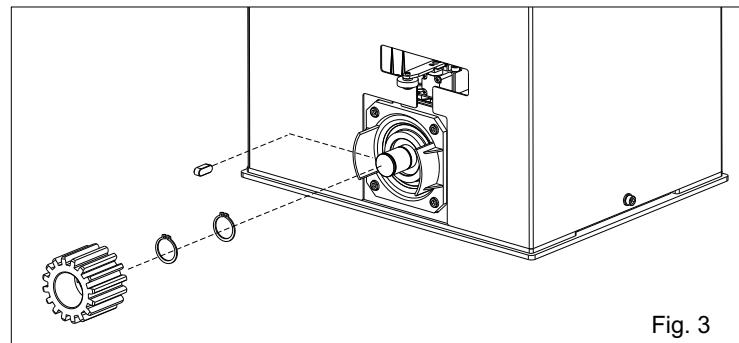

Fig. 3
- 3.1. Put the spline into the motor reducer shaft as in Fig. 3.
- 3.2. Mount the pinion on the motor as shown in fig.3